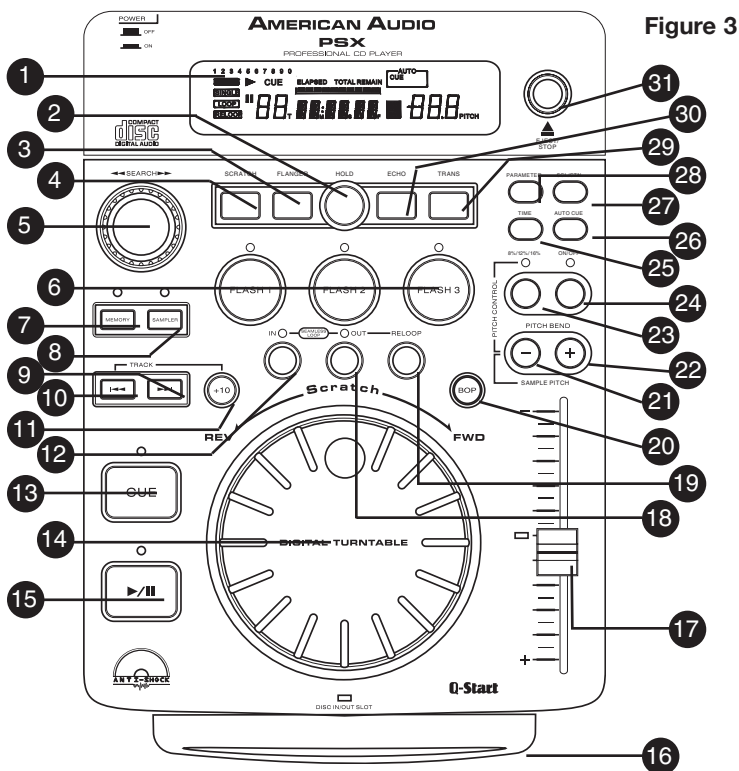

Figure 3
A. TOP UNIT CONTROLS (FIGURE 3)
6. FLASH BUTTONS 1-3 - These buttons are used to store either three (3) cue points or three (3) samples. Each Flash Button can store either a sample or a cue point.
7. MEMORY BUTTON - This button allows you to program up to 3 cue points or three samples in to the three FLASH BUTTONS (6). The samples